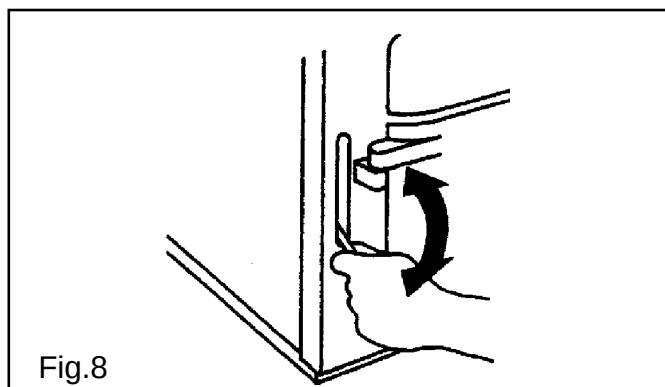
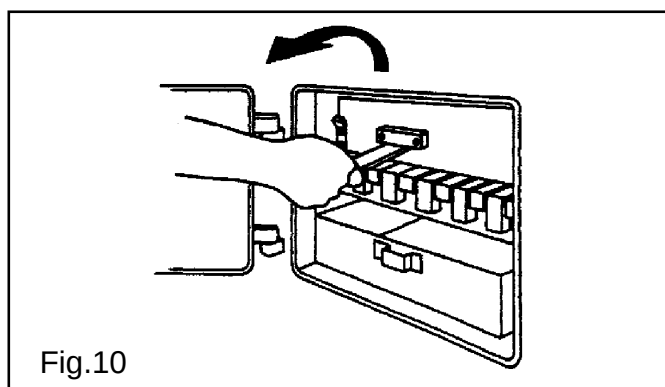

Fig.8
Fig.10
- De-ash (Fig. 8) and remove dead fuel from bottomgrate (lift off clinker door above the bottomgrate (Fig. 10), rake fuel into ashpan replace clinker door).
- De-ash (Fig. 8) and remove clinker door (Fig. 10). Insert flat bayonet type gas poker on top of bottomgrate bars.
To de-ash, riddle the grate by agitating the riddling handle in an up and down manner about 20 times to free the grate of ash. See Fig. 8.
Allow the fire to burn out and then open the ashpit door. Lift off the clinker door (See Fig. 10) and insert hooked poker to drawn out any offending accumulation. Replace clinker door after use.